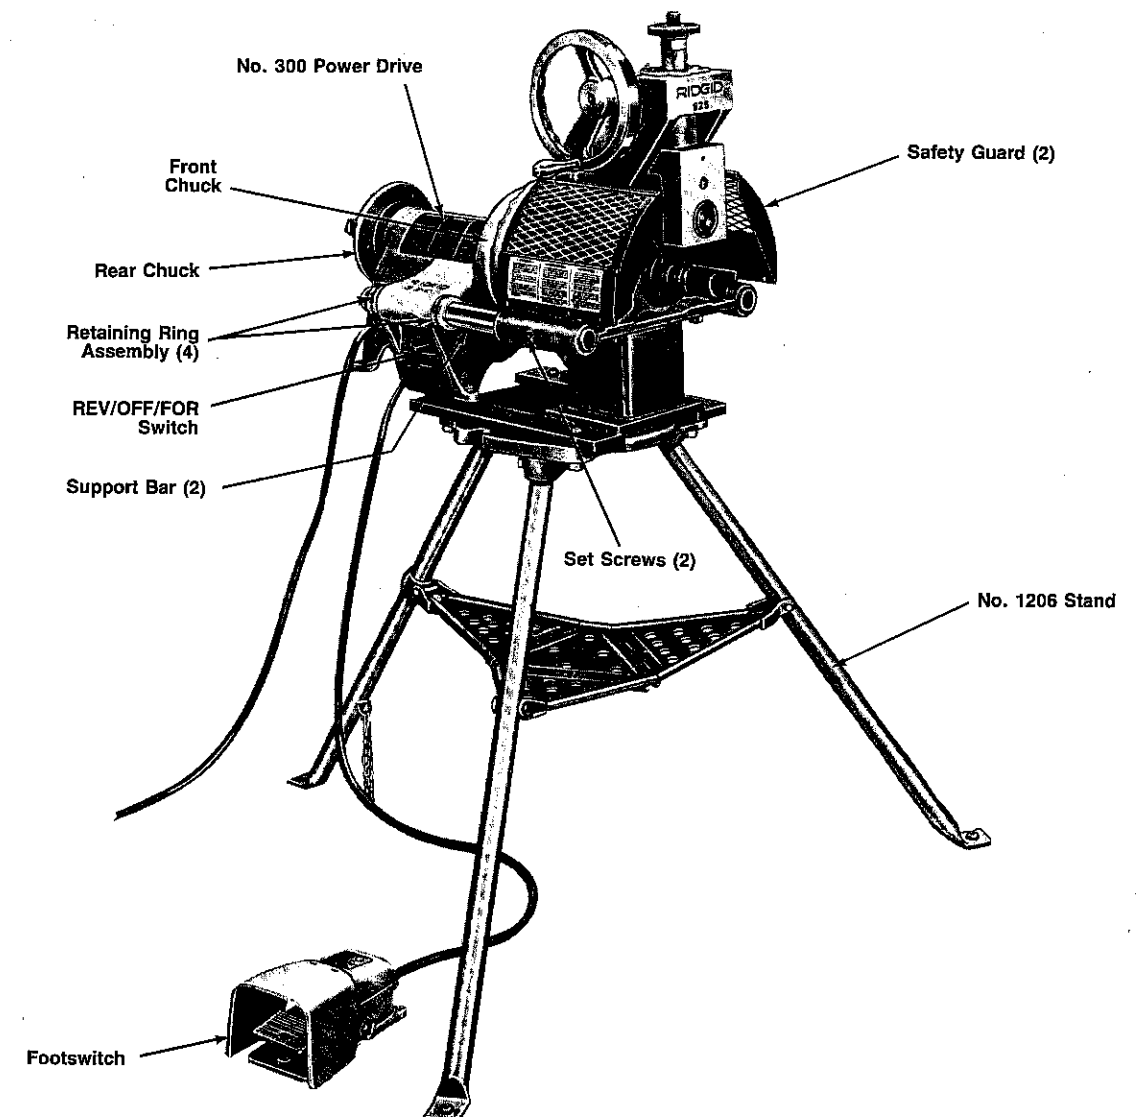

Figure 17. No. 300 with No. 925-1 Roll Groover
2. Extend No. 300 Power Drive Support Bars 11 inches forward from front face of Power Drive housing. Secure Support Bars with four Retaining Ring Assemblies (Figure 17).